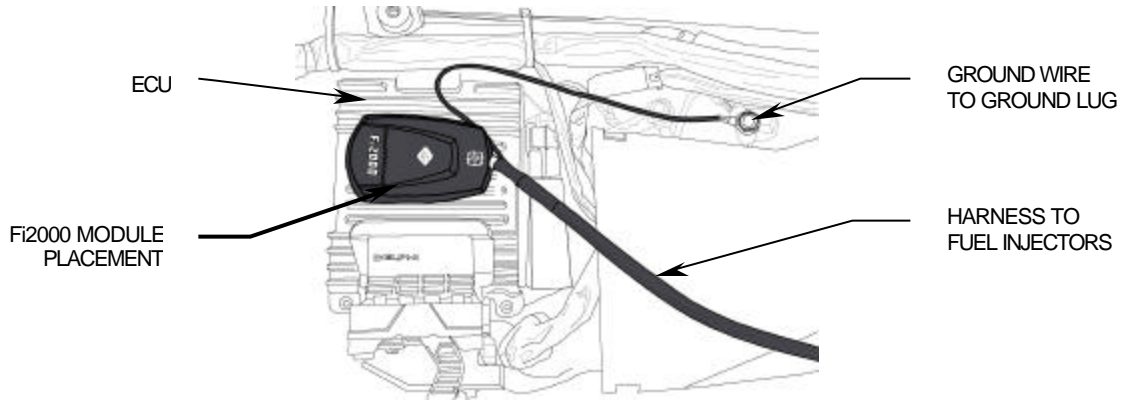

FIGURE 1
2. Place the FI2000 module on top of the ECU, see Figure 1.
9. Attach the ground wire to the ground lug and Velcro the FI2000 module to the top of the stock ECU, see Figure 1.
10. Before lowering the fuel tank, and replacing the seat, verify your connections. Remove the door from the Fi2000 box to expose the LED's. Verify the wire connections by (1) turning the ignition on, prior to starting, and see if all three LED's are on steady. If you have no light, your ground connection (BLACK wire) has not made proper contact or your front injector connection is not complete. (2) After achieving a steady light from all three LED's, start the motorcycle, wait 15 seconds and let it idle, the green light should now be the only LED on. If all three LED's are still on after start up, verify you have attached the injector connectors correctly. Reattach the door when finished. **Note:** Make sure the ignition is turned off before changing any connection.